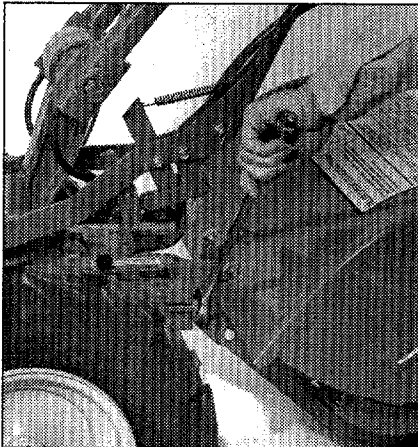
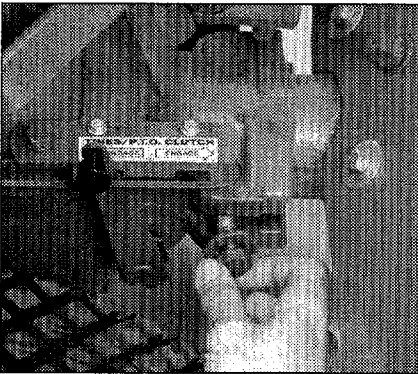

Figure 4-24: Loosening attachment swing-bolts.
Figure 4-25: Moving swing-bolts outward.
7. Loosen the two swing-out bolts (Figure 4-24) that connect the power unit transmission to the tine attachment and swing out the bolts (Figure 4-25).